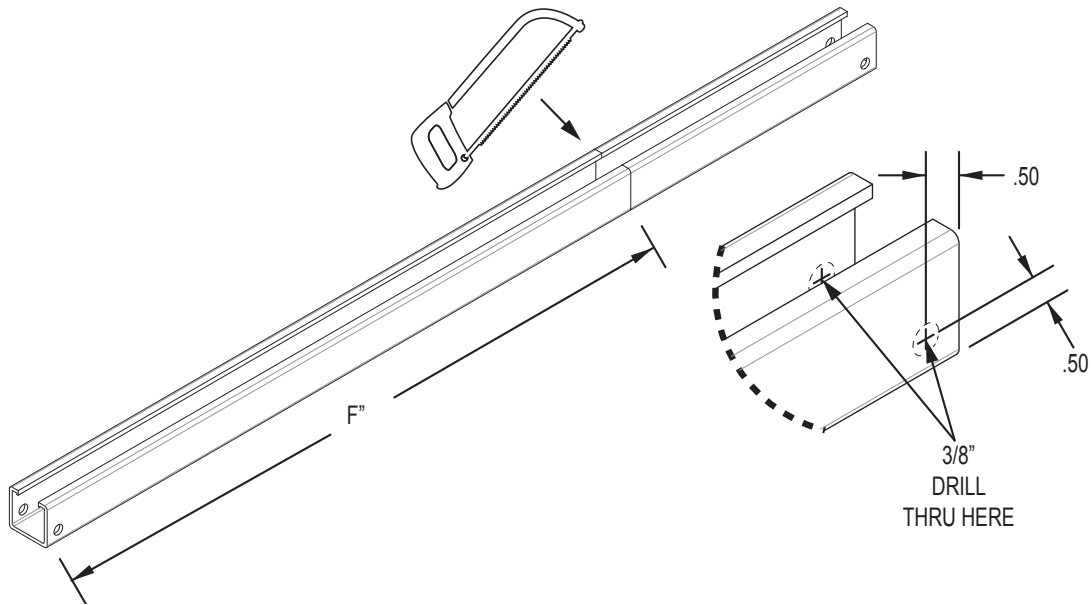

Figure 7.
7. Locate the Collector Mounting Struts included with your kit. This mounting strut will need to be cut to length with a hack saw or other suitable tool to match the "F" length noted in Table 2 for the solar collector size being used and tilt angle that is desired. See Table 2 and Figure 7.
8. Drill a 3/8" hole through the "cut" end of the Collector Mounting Strut as depicted in Figure 7.